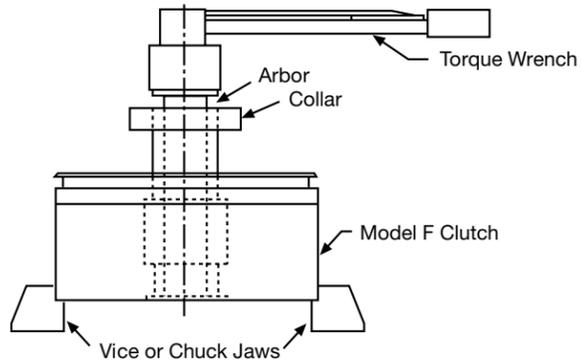

Figure 16
- Install the rotor snap ring (38) into the groove of the rotor. The unit is now ready for testing.
- Insert the appropriate size arbor and key into rotor. (See Figure 16)